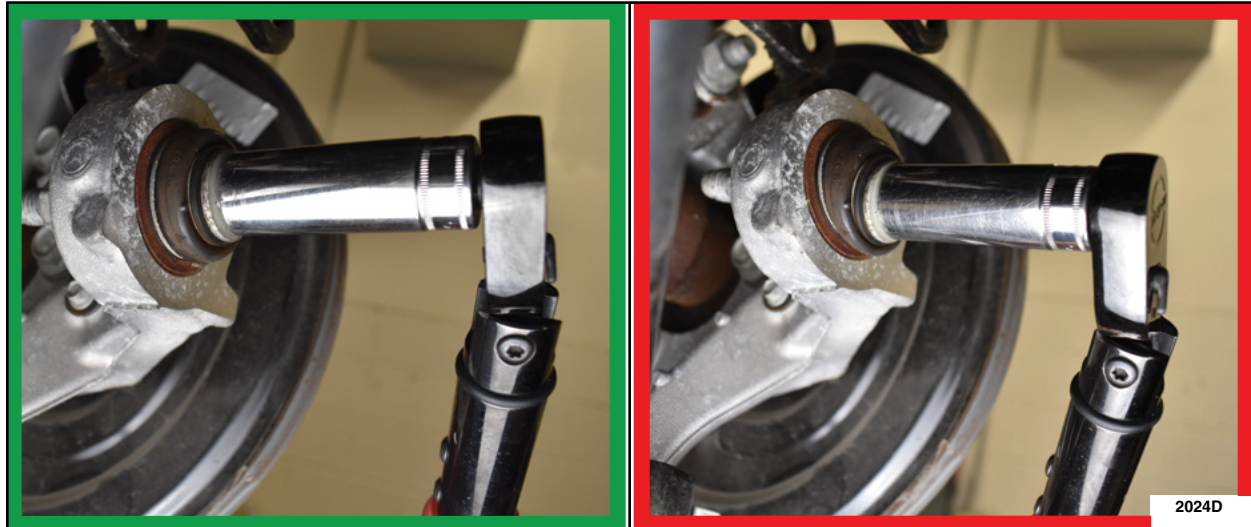

FIGURE 6
8. Using a digital or dial type torque wrench, rotate the toe link to wheel knuckle bolt while keeping the ball joint straight. Do not allow the ball joint to twist as shown in the red picture below. Note the reading off of the torque wrench when the ball joint begins to rotate. See Figure 6.
See Figure 6.